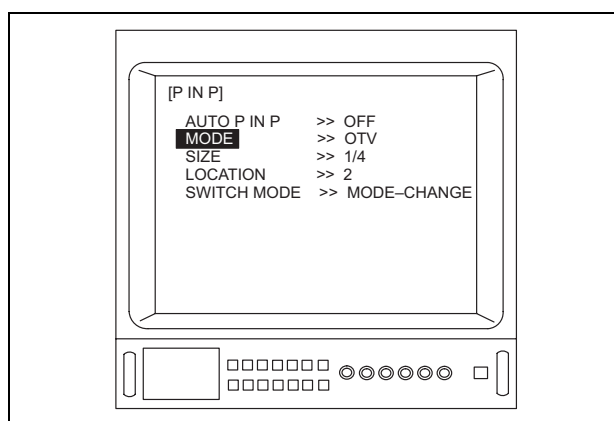

Figure 5.120
8. Depress the menu switch “↵” or the “Enter” key on the keyboard to adjust the “MODE” (see Figure 5.120).